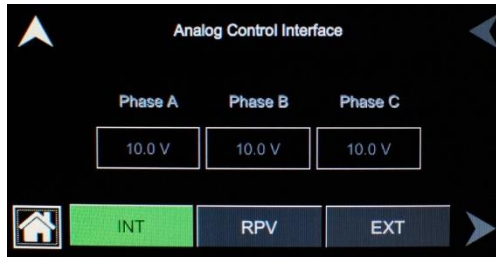

Figure 4-41. CONTROL INTERFACE Menu, ANALOG Sub-Menu
| ANALOG | <p>Selects the reference that determines the output voltage waveform and amplitude; the default is INT. Refer to Figure 4-41. The options are as follows:</p> <p>INT: Selects programming of the output voltage waveform and amplitude by the internal controller reference.</p> <p>RPV: Selects programming of output voltage amplitude with an external analog interface signal, with the waveform being set by the internal controller reference. A Voltage field is provided for entry of DC input signal range: user-selectable maximum range value within 2.5 VDC to 10 VDC, for full-scale RMS of internally programmed output voltage waveform</p> <p>EXT: Selects programming of output voltage waveform and amplitude with an external analog interface signal. A Voltage field is provided for entry of AC or DC input signal range: 0V to user-selectable maximum range value within 2.5 V(PK) to 10 V(PK), corresponding to maximum range of 1.77 V(RMS) to 7.07 V(RMS), for zero to full-scale RMS output voltage; with AC waveform, from 16 Hz to 5 kHz (option dependent);</p> <p>PHASE: Selects the full-scale of the analog programming voltage for each output phase (Phase-A/B/C).</p> |